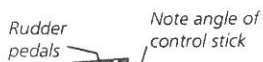

Figure 9
- Attach the rudder pedals per Figure 7 and stick, Hasegawa kit throttle, and resin lower instrument panel per Figure 8. The proper angles for these parts are shown in Figure 9. Figure 10 shows the cockpit tub complete except for seat related parts. You have a choice of painting the instrument panel dials or sanding off the thin backing plate and attaching the acetate instrument.